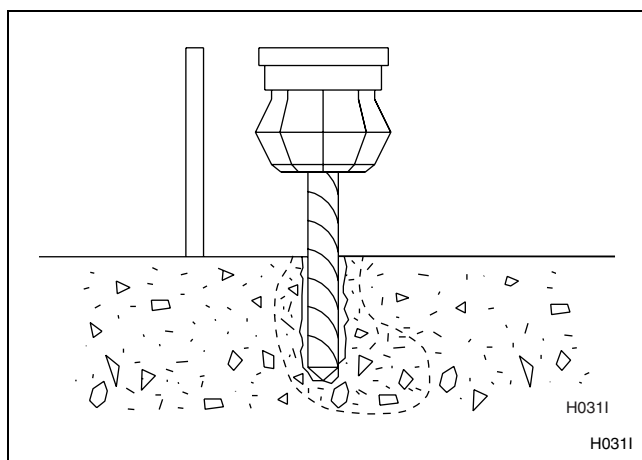

Figure 6
4. Drill and chisel out a conical hole large enough to accept the J-bolt. Refer to *Figure 6*.